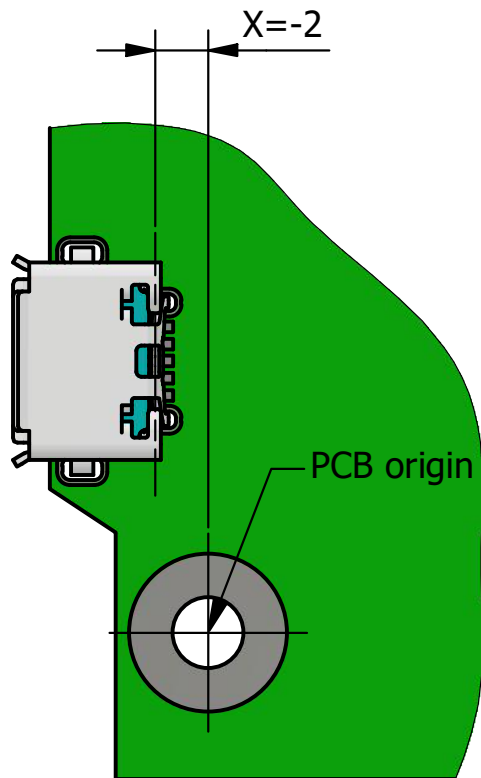
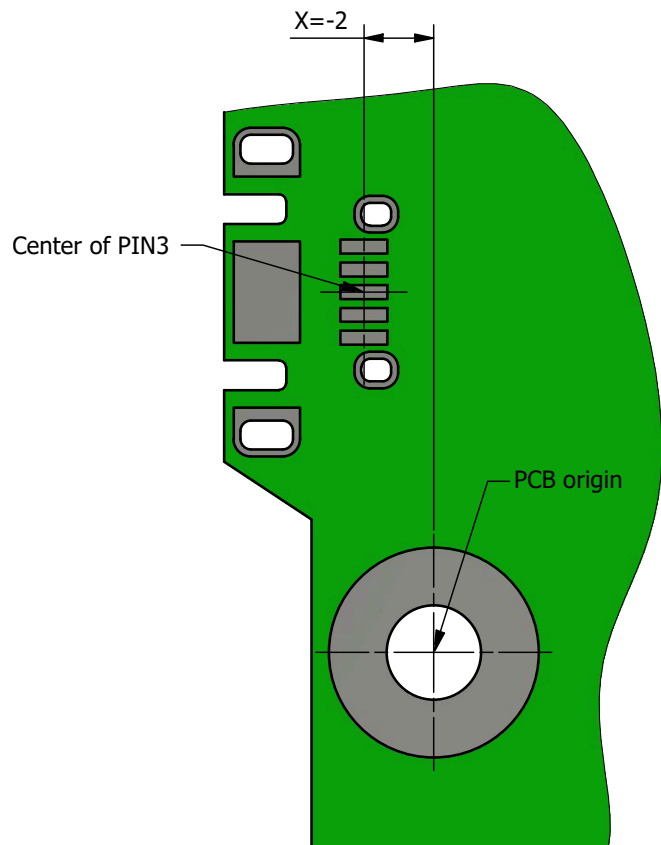

Figure 29: Hirose ZX62RD-AB-5P8(30) Placement
Figure 30: Hirose ZX62RD-AB-5P8(30) Foot-print
The X-axis placement of the Hirose ZX62RD-AB-5P8(30) MicroUSB is shown in Figure 29. Figure 30 is provided solely to clarify the location of the reference pin for measurements.